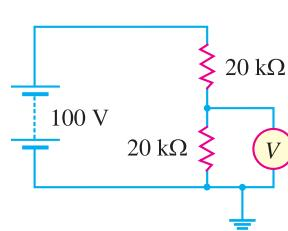

Fig. 22.28
1. A voltmeter is used to measure voltage across $20\text{ k}\Omega$ resistor as shown in Fig. 22.28. What will be the voltage value if (i) voltmeter has infinite resistance (ii) voltmeter has a sensitivity of $1000\text{ }\Omega$ per volt and reads 100 V full scale ? [(i) 50 V (ii) 45 V]
3. If the sensitivity of voltmeter in Fig. 22.28 is $500\text{ }\Omega/\text{volt}$ (Full-scale reading being 100 V), what will be the reading of the voltmeter ? [41.7 V]